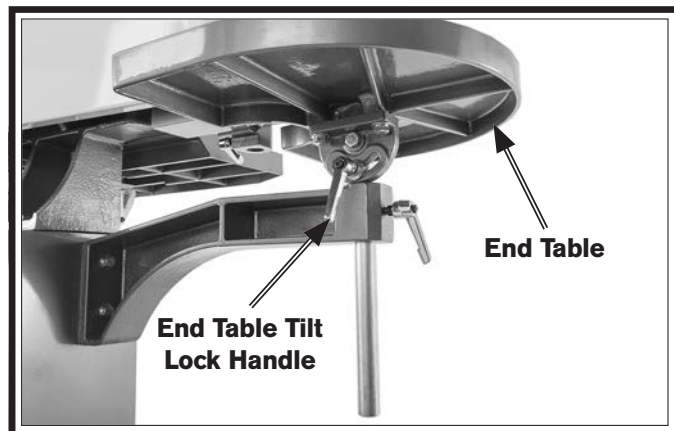

Figure 42. End table tilt components.
1. Loosen end table tilt lock handle (see **Figure 42**).
2. Tilt end table to desired angle (see **Figure 42**).